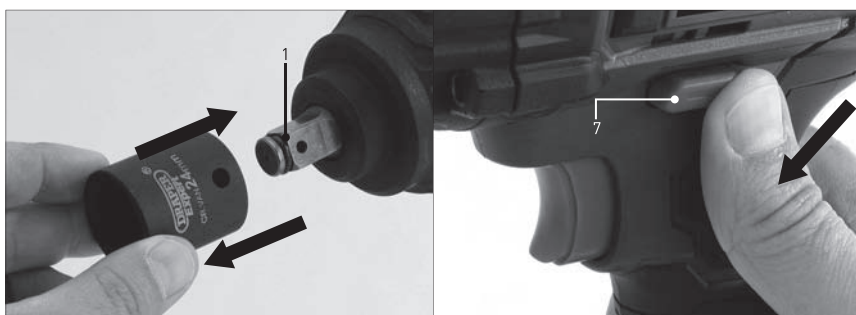

FIG.4
1. INSTALLING AND REMOVING SOCKETS - FIG.4